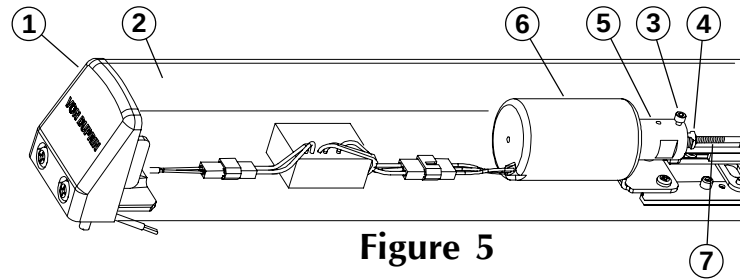

Figure 5
- C. Adjust solenoid if dogging rod is too long (see Figure 5):**
1. Remove end cap ① and dogging cover ②.
2. Loosen cap screw ③.
3. Hold plunger ⑤ depressed in solenoid housing ⑥.
- D. Solenoid adjustment if dogging rod adjustment is too short (see Figure 5):**
4. Turn threaded bushing ④ out to lengthen dogging rod ⑦ so plunger ⑤ just bottoms in solenoid housing ⑥ and latch bolt is fully retracted.